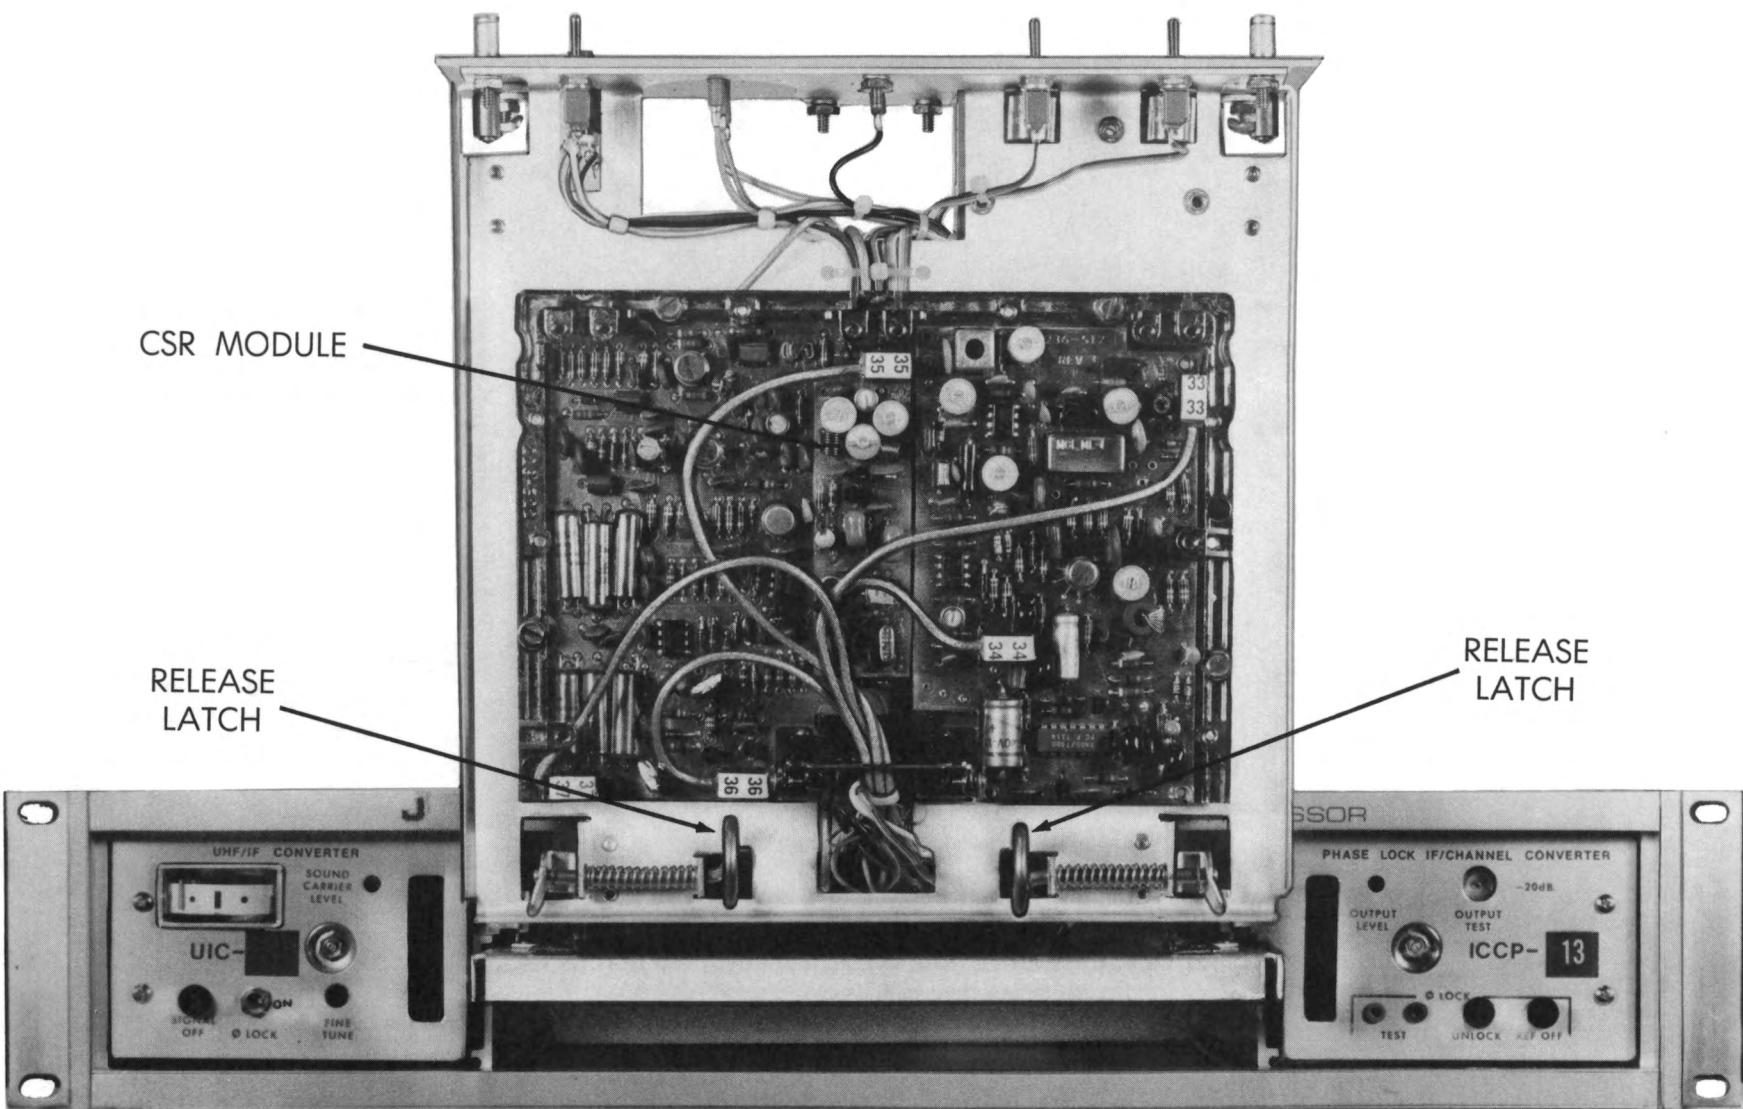

Fig. 7 PROCESSOR WITH CSR MODULE INSTALLED
1.1.2 Remove the bottom cover from the drawer by removing the holding screws; the CAX module circuit board is now accessible for insertion of the CSR module. For easy insertion, first remove jack No.35 from its pins on the CAX board, then plug the CSR straight into the CAX board as illustrated in Fig. 7. Return jack No. 35 to its former position. Refer to the bottom coversilk screen and set switch plugs P201 and P202 as required by system design. Replace the cover.